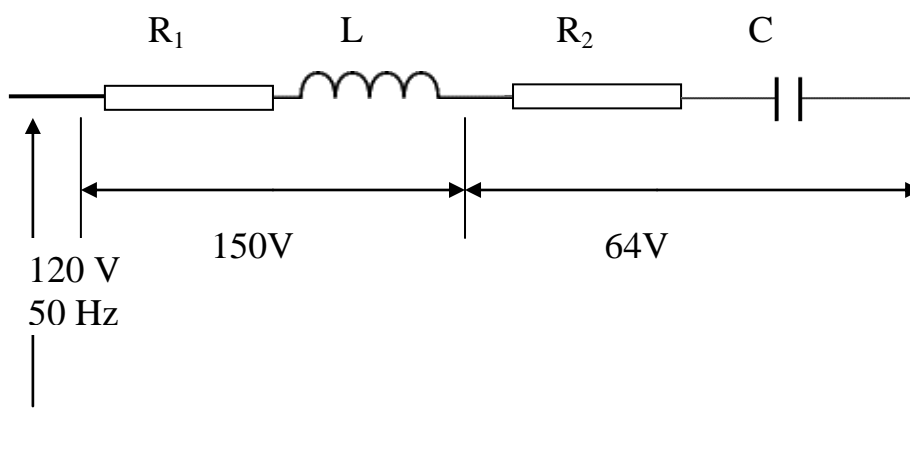

Fig Q4
- (a) the supply current; (8)
- (b) the effective resistance of the non-linear element; (6)
- (c) the current in each of the two paralleled resistors. (2)
- (a) Sketch a circuit diagram for the arrangement. (2)
- (i) the load voltage when the load current is zero and the supply voltage is 15 V; (4)
- (ii) the load voltage when the load current is 30mA and the supply voltage is 40 V; (3)
- (iii) the minimum value of input voltage to give a stabilised load voltage when the load current is 30 mA; (3)
- (iv) the power dissipated in the Zener diode when the supply voltage is 50V and the output load current is 20 mA. (4)
4. The series circuit shown in Fig Q4 is connected to 120V 50Hz. It draws a current of 2.4 A at a power factor of 0.8 lagging. The resistor  $R_2$  dissipates 57.6 W and the volt drops across the various parts of the circuit are as shown.